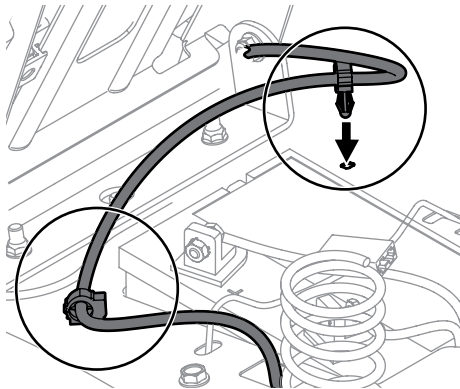

Figure 2-4
- Using the harness clip attached to the harness, secure the excess wire to the fender by snapping the harness clips in place as shown in Figure 2-4.